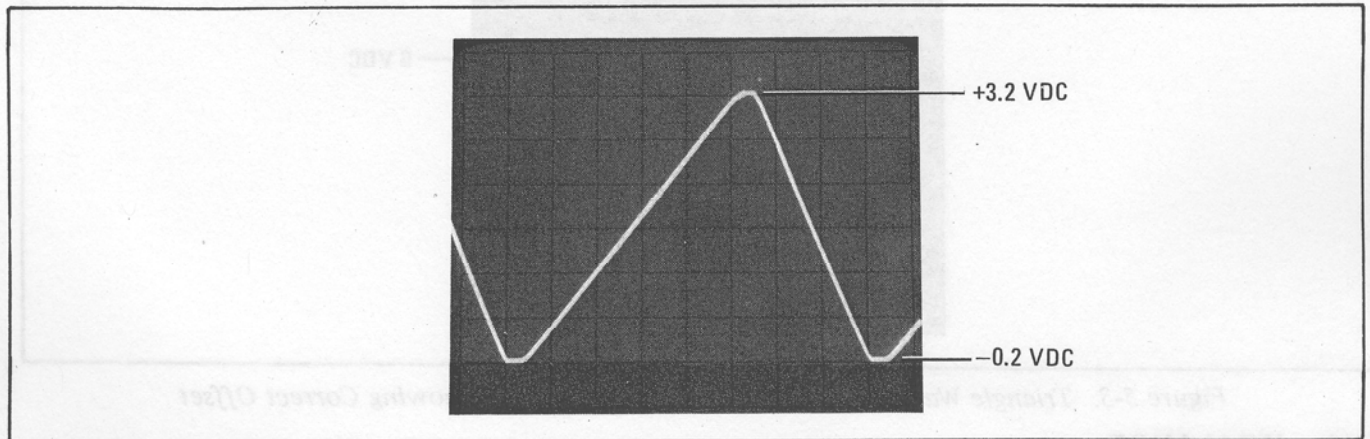

Figure 5-1. Sweep Input Waveform at A2TP3
**Adjustment Description:** Adjust sweep input controls for  $-0.2$  to  $+3.2$  Volt ramp as shown in Figure 5-1.